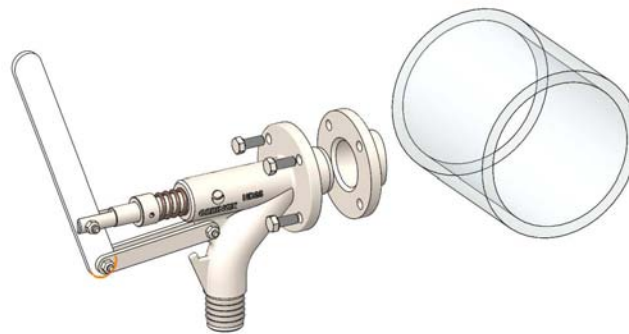

Fig. 1
1. Loose flange fitting (2) from the valve (fig 1) and remove the O-ring (8).